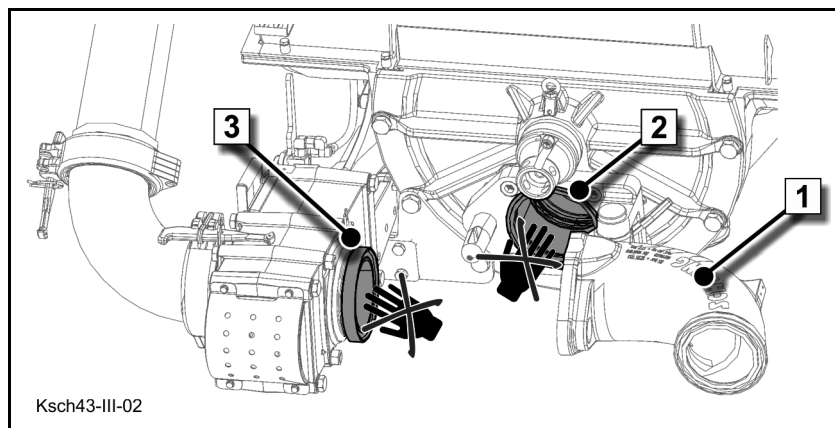

Fig. 472
If the "outlet" (1) (**Fig. 472**) is folded up, the chamber valve (3) and the rock valve (2) can be accessed.